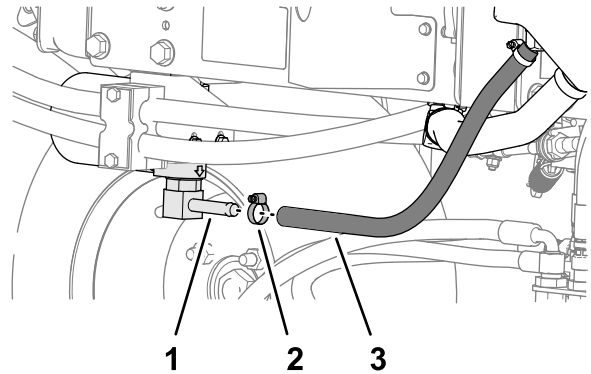
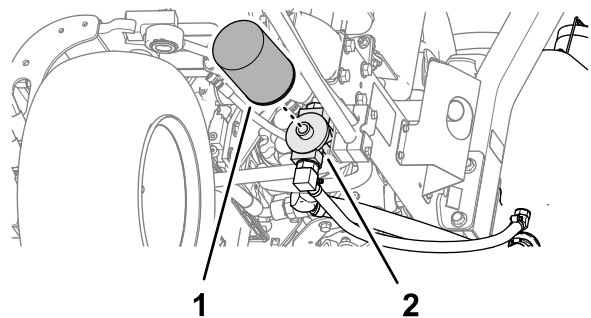

Figure 83
Figure 84
2. Disconnect the hydraulic hose (Figure 83) or remove the hydraulic filter (Figure 84) and drain the hydraulic fluid into a drain pan.